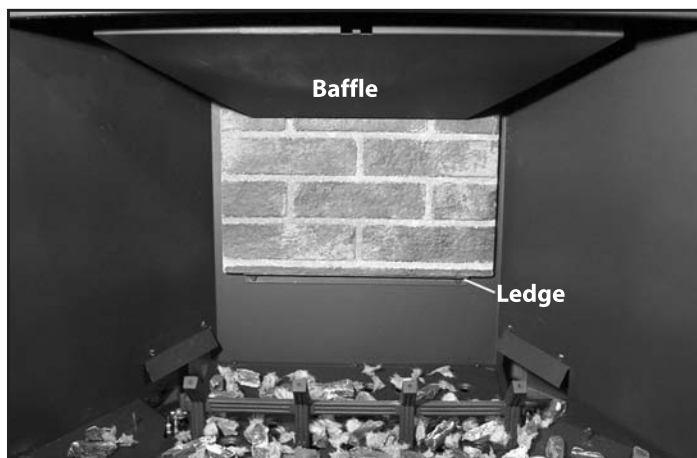

Figure 49. Back Panel In Place.
2. Slide center brick panel up behind the baffle (shown in Figure 49) and rest the bottom of the panel on the ledge.